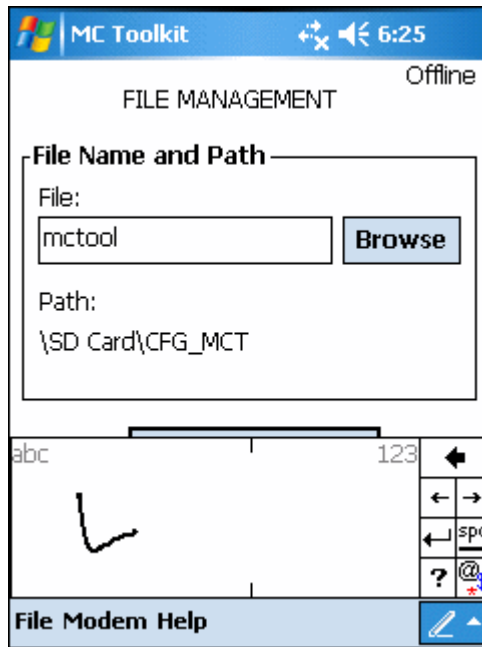

Figure 3-12 Block Recognizer
2. Use the stylus to provide a character input to the letter pad at the bottom of the screen. The character strokes are then converted to typed text on the screen as shown below in Figure 3-12.